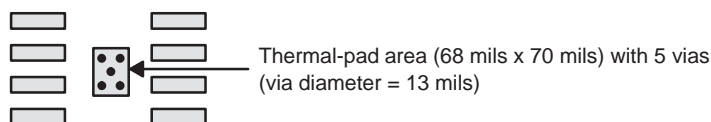

Figure 34. PowerPAD™ PCB Etch and Via Pattern
1. Prepare the PCB with a top-side etch pattern as shown in Figure 34. There should be etch for the leads, as well as etch for the thermal pad.